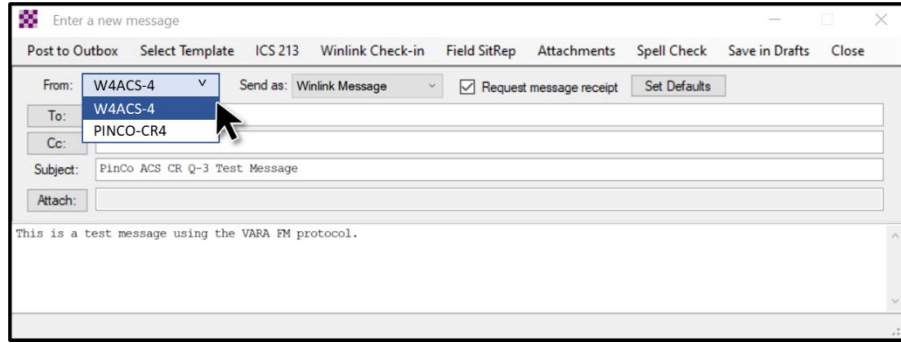

Figure 5. Winlink Call Sign Selection
- (1) **From:** Use the pull-down menu to select the **Winlink call sign** for the unit under test. Refer to Table I for call sign information and Figure 5 for call sign selection window location.
- (2) **Send as:** Winlink Message.
- (3) **Request message receipt:** Check this box.
- (4) **To:** W4ACS
- (5) **Subject:** PinCo ACS CR Q-4 Test Message
- (6) **Message text:** This is a test message using the VARA HF protocol and the Command Runner amateur radio call sign.
- (1) From: Use the pull-down menu to select the **Winlink Tactical Address** for the unit under test. Refer to Table I for Tactical Address information and Figure 5 for call sign selection window location.
- (2) Send as: Winlink Message.
- (3) Request message receipt: Check this box.
- (4) To: PINCO-EOC
- (5) Subject: PinCo ACS CR Q-4 Test Message
- (6) Message text: This is a test message using the Pactor protocol and Command Runner Winlink Tactical Address.